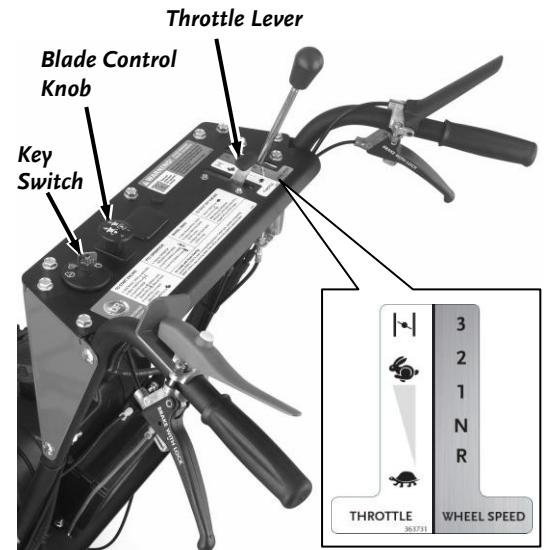

Figure 21
1. Stop the Blade by pushing down  on the Blade Control Knob (**Figure 21**).
1. Disengage the Blade by pushing DOWN  on the Blade Control Knob (**Figure 21**).
1. Stop the Blade by pushing down  on the PTO Knob (**Figure 21**)